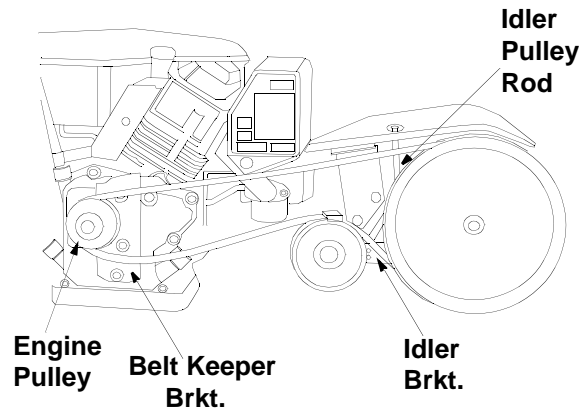

Figure 12
3. Remove the hairpin clip and flat washer from the idler pulley rod. See Figure 12.
4. Move the idler pulley rod to the lower hole in the idler bracket. See Figure 12.
4. Remove the belt keeper bracket located behind the engine pulley by removing two hex bolts and lock washers. See Figure 12.
NOTE: Upon reassembly, make certain the belt is routed over the idler pulley and inside of belt keepers by engine pulley. See Figure 12.